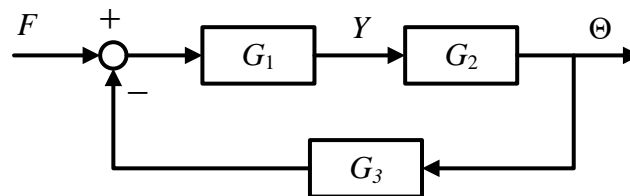
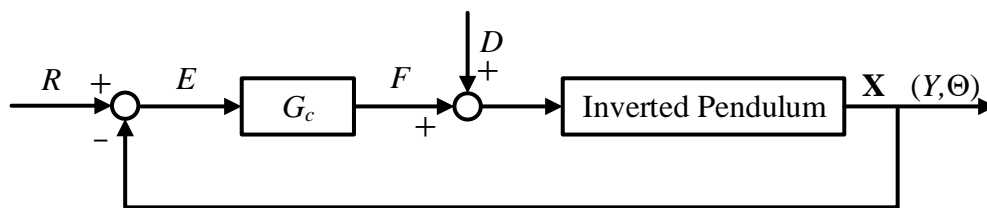
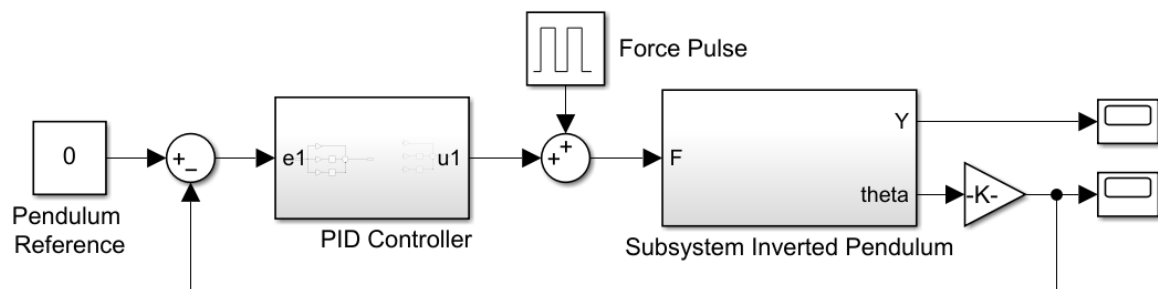

Fig. 3 Block diagram of the inverted pendulum
Fig. 4 Block diagram of control system
Fig. 5 Simulink model (for reference)
(1) System Modeling
- (b) Show that the block diagram for the system has the form suggested in Fig.3, find G_1 , G_2 and G_3 . State any assumptions that you have made in deriving the block diagram (Y represents the cart position, Θ represents the pendulum angle).
(2) Controller Design
- (a) With the block diagram of the control system shown in Fig. 4 (\mathbf{X} is the state variable, G_c is the transfer function of controller, D is the disturbance force), design a PID controller and tune the PID parameters to keep the orientation of the inverted pendulum ($-\pi/6 \leq \theta \leq \pi/6$) to settle within 1 second to a sudden change (impulse) in disturbance. (Refer to Fig. 5 for closed-loop system in Simulink)